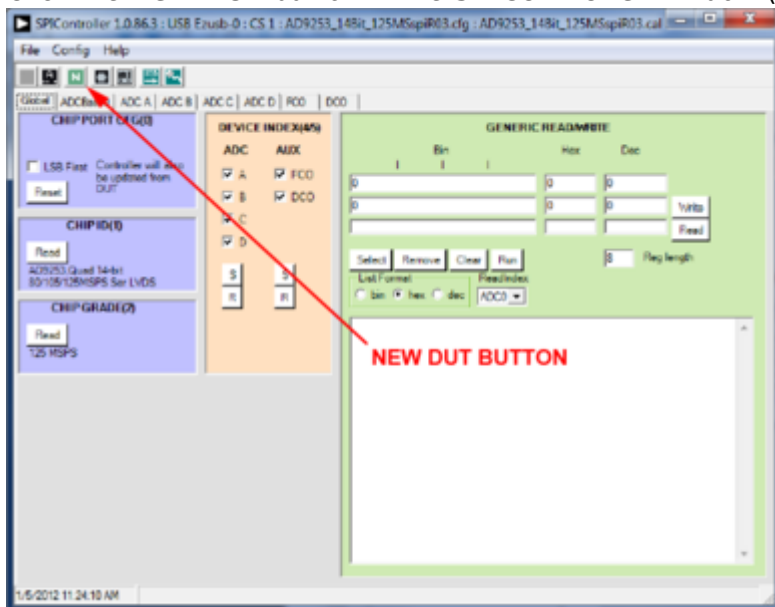

Figure 8. SPI Controller, New DUT
2. Click the **New DUT** button in the **SPIController** window (see Figure 8)